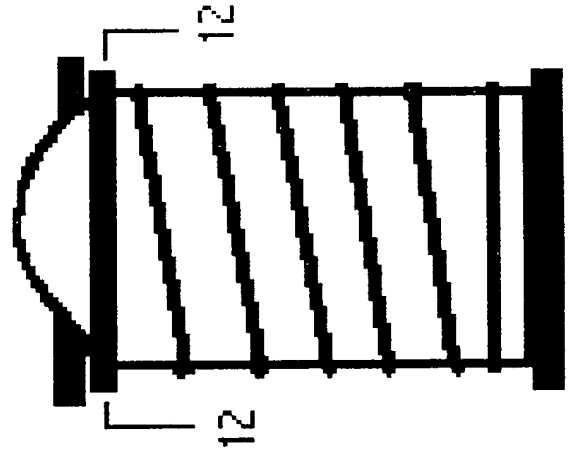

FIG. 6
- Fig 6 shows new configuration of spark plug ~~(tip)~~ TERMINAL after ~~(assembly)~~ BEING ASSEMBLED